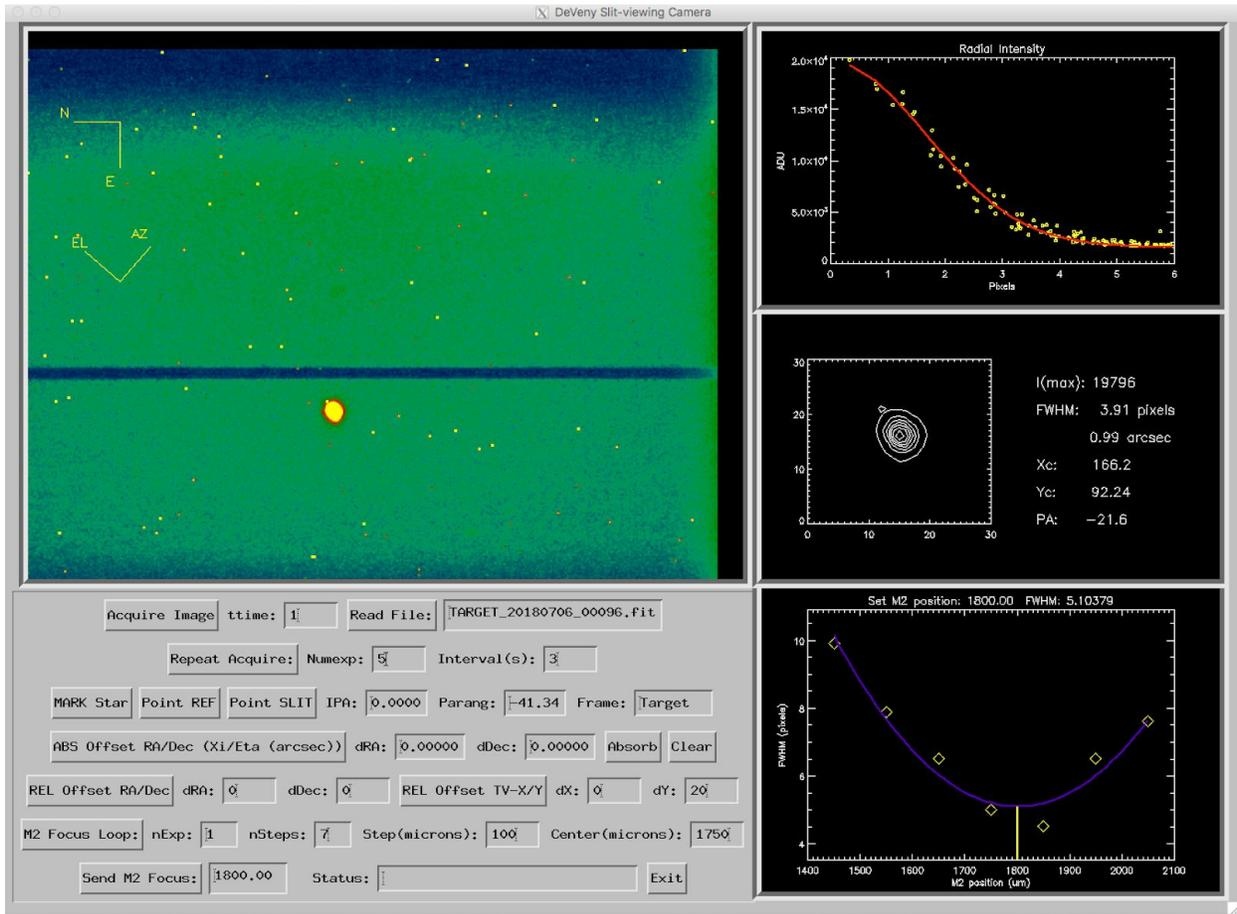

Figure 16. IDL *slitviewg* control GUI.
- b. At the IDL> prompt, type `slitviewg`. This launches the slit viewing camera top level control GUI (Figure 16).
- 4) **MARK Star**: Fits a 2-D Gaussian function to a selected star in the field of view; the center of the PSF is utilized for offsetting operations. Click the button, then select the target with the cursor and click. Note: the Status field will change to say Markstar! and the cursor will change. After the fit is calculated, a 1-D radial plot of the target intensity with the fitted curve is displayed in the upper right window, and a contour plot of the selected star and fit parameters are displayed in the middle-right window (Figure 16).